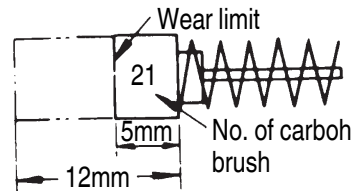

Fig. 8
- 3. Inspecting the carbon brushes (Fig. 8)**